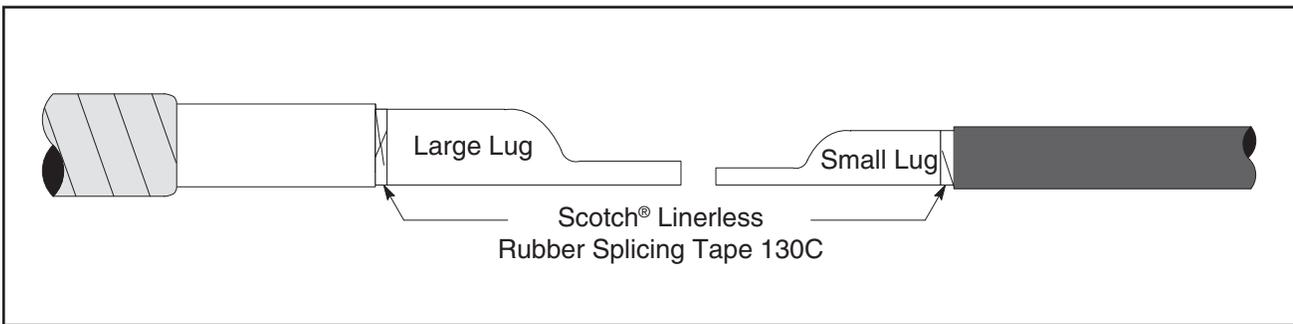

Figure 10
- 7.2 FOR 8kV ONLY. Fill lug/insulation gaps with Scotch® Linerless Rubber Splicing Tape 130C (Figure 10).